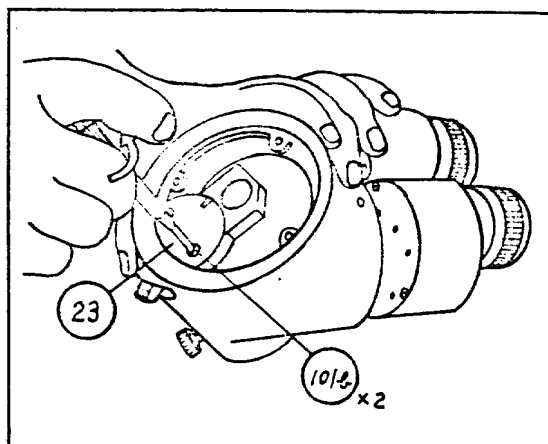

Fig. 13
11) Unscrewing the screws (101b)  $\times 2$ , take out the grooved plate (23). (Fig. 13, 14)